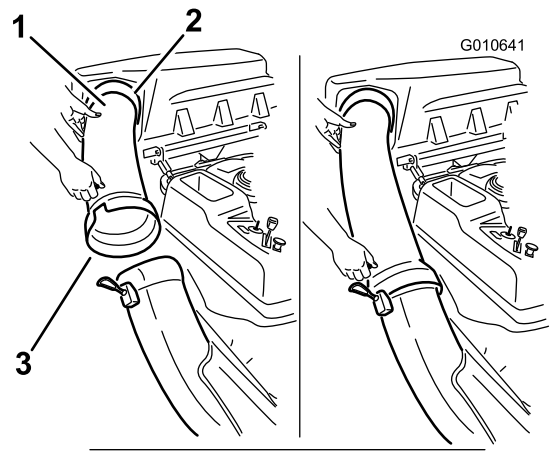

Figure 5
1. Slide the curved end of the discharge tube (supplied with the bagger kit) into the opening in the bagger top (Figure 5).
2. Slide the flared end of the discharge tube over the end of the chute. Move the rubber retaining strap on the chute snaps over the peg on the discharge tube to secure it (Figure 5).